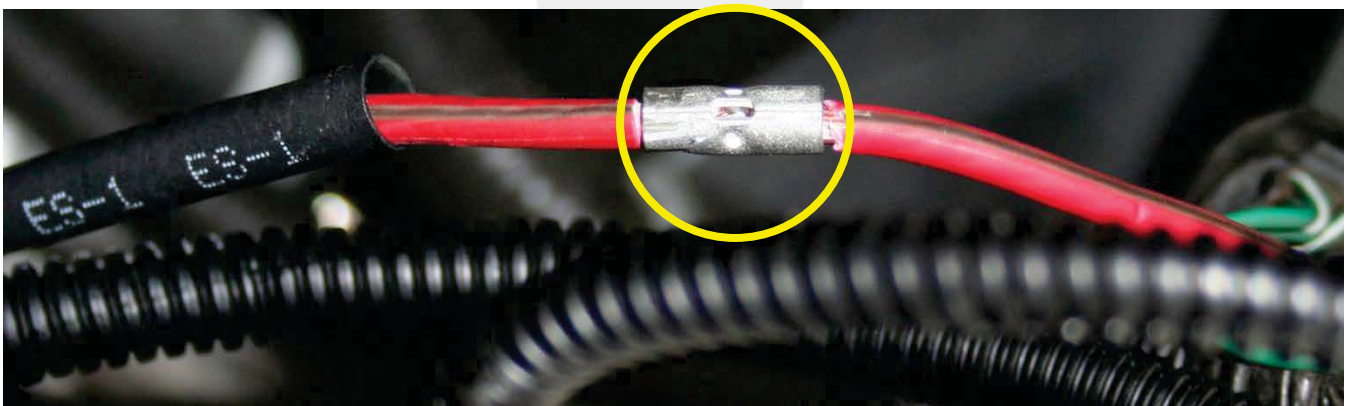

Figure 11
14. Insert the exposed wires on the vehicle-side harness into the splice terminal (Figure 11). Crimp the terminal. Gently pull on both sides of the crimp to ensure that the wires are secure.